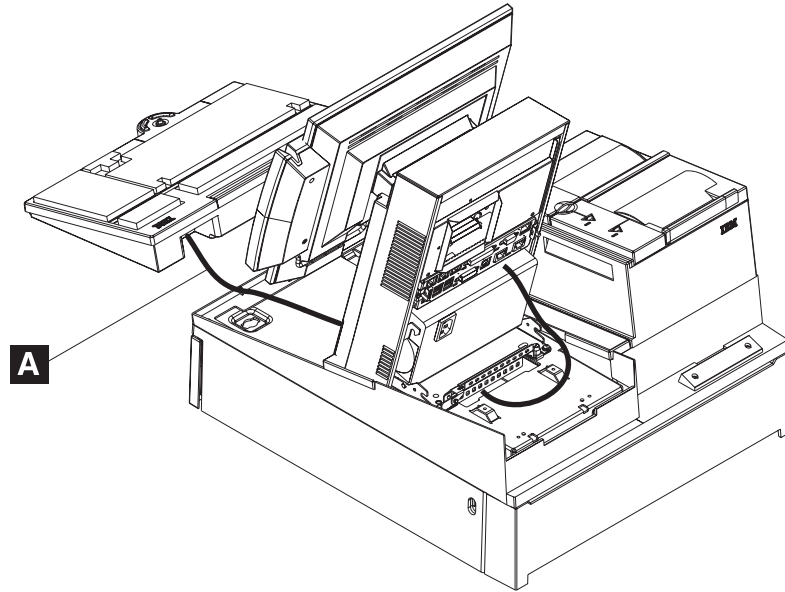

Figure 30. Installing the keyboard onto the integration tray
13. To install the keyboard, perform the following steps. See Figure 30 on page 39 for callout locations: